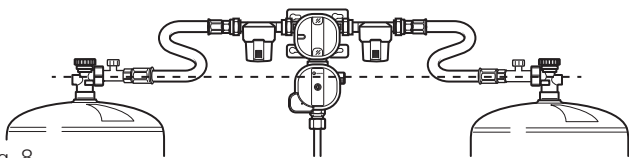

Fig. 8
- ▶ During a cylinder change, ensure that the high-pressure hoses from the inlet connection of the gas pressure regulator is always at a constant gradient to the gas cylinders (Fig. 8).